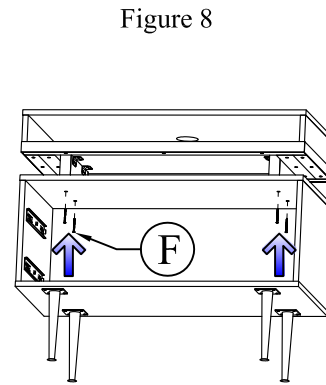
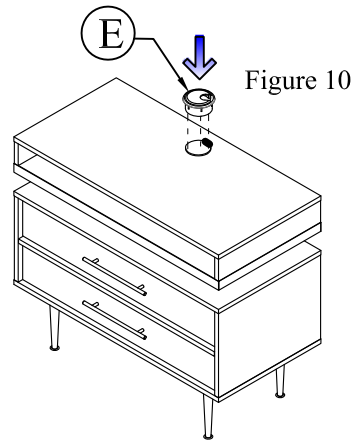

Figure 8
Figure 10
2. Secure the units using four 6x2" Drywall screws. (F) (Fig. 8).
3. Put back DRAWERS (2) removed in step(5)
4. Install GROMMET (E) (Fig.10)